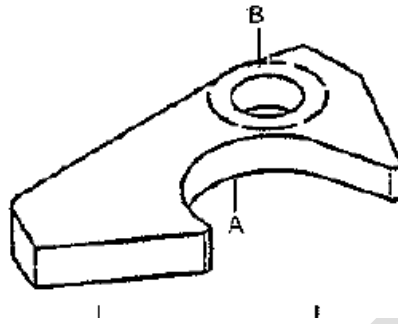

Figure 6
5. Multiplying Linkage Cable Pin Lock	29-46656 (Fig. 6 Zones A and B)
5. Multiplying Linkage Cable Pin Locks	29-46656 (Fig 6 all areas except B and C)